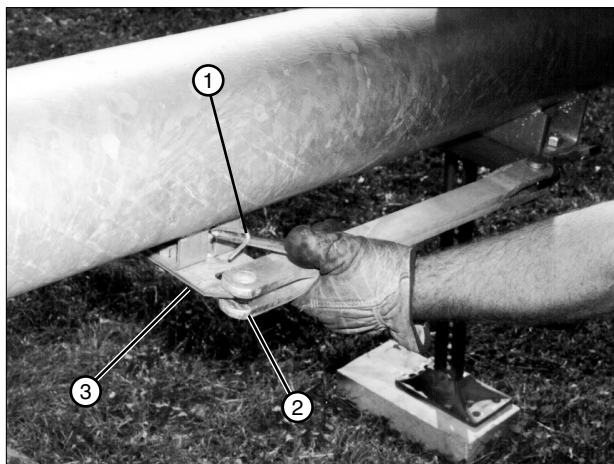

Figure 32-1 1. Carrier Spring 2. Tow Link Bar 3. Tow Link Carrier
8. Lift the carrier spring and release the tow link bar from the tow link carrier. See figure 32-1.